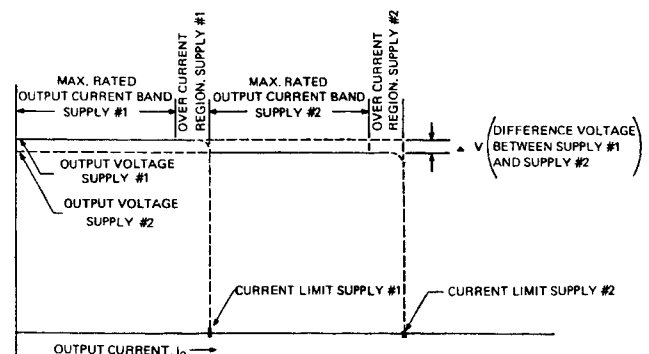

FIG. 3-12 PARALLEL OPERATION, PCX-MAT POWER SUPPLIES
- 3-44 Two identical PCX-MAT power supplies may be operated in parallel for increased load-current output. Each supply is set to the desired output voltage with its respective Current Limiting Adjustment set to the maximum rated output current. After paralleling the two power supplies, one of the (supply #1) will inherently be at a slightly higher output voltage than the other (supply #2). Consequently, supply #1 will deliver all the load current up to the setting of its Current Limiting Adjustment. As the load is increased beyond this limit of supply #1, supply #2 takes over and delivers the additional current. The Current Limiting Adjustment of supply #1 can now be decreased, so that approximately equal current sharing is obtained. FIG. 3-12 shows in form of a diagram, how the two supplies operate in parallel, with their respective Current Limit Adjustments set to the maximum rated output current. It will be obvious from the diagram, that the areas of load regulation are within the output current bands of the individual supplies only. Therefore, load regulation cannot be measured from zero to twice the load current for example, but only within the individual load current bands. Error sensing as described in Par. 3-5, (from either supply) may be used if precise regulation at the load is required.